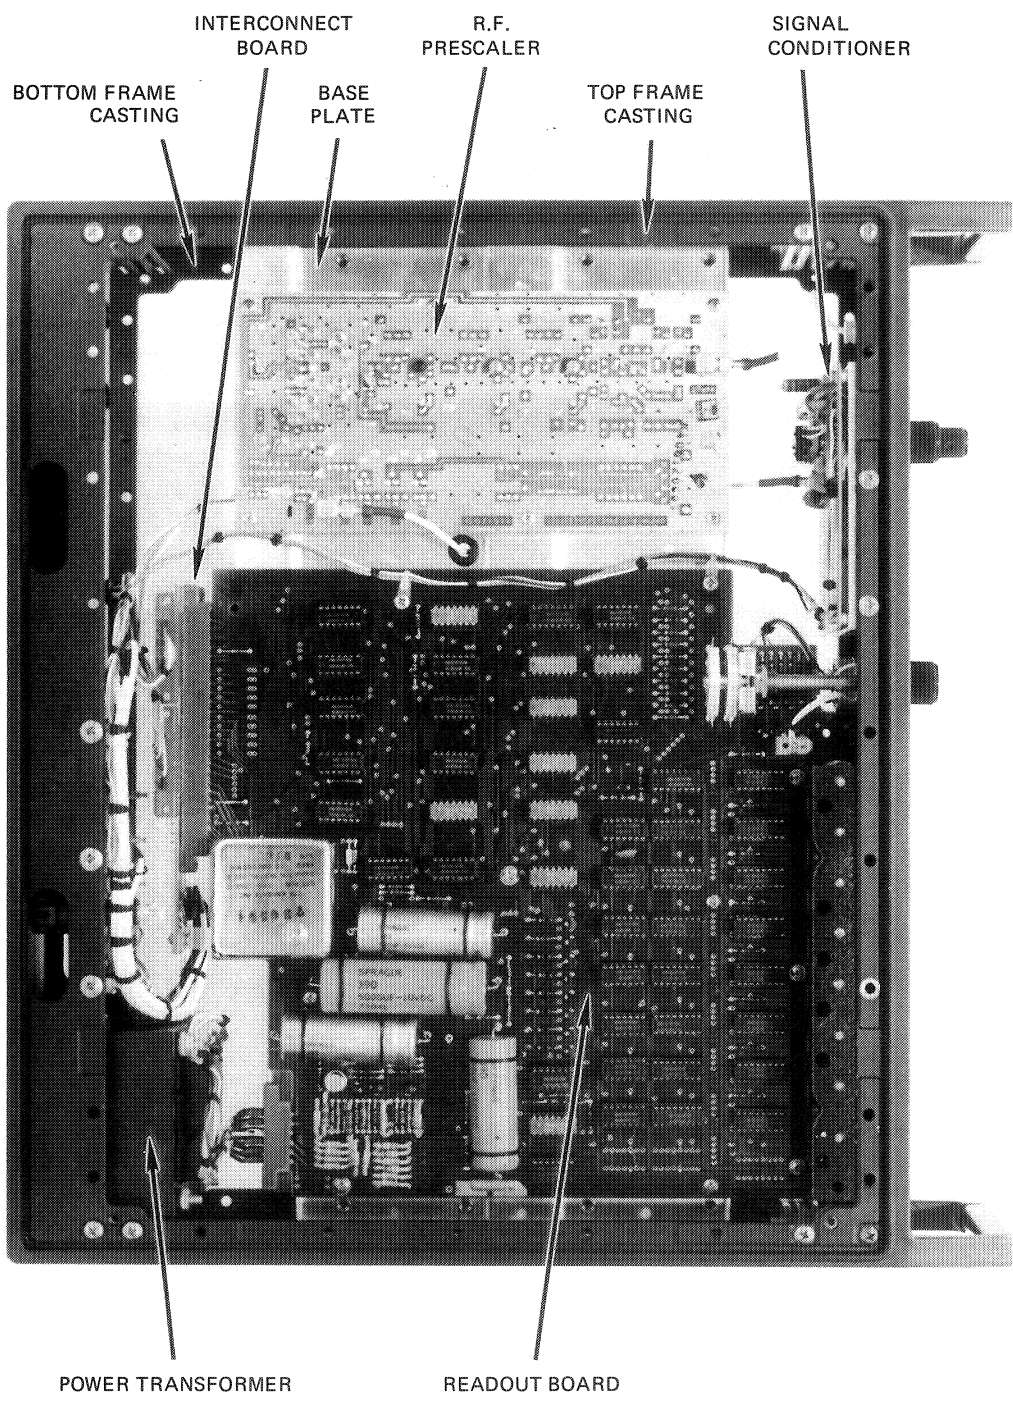
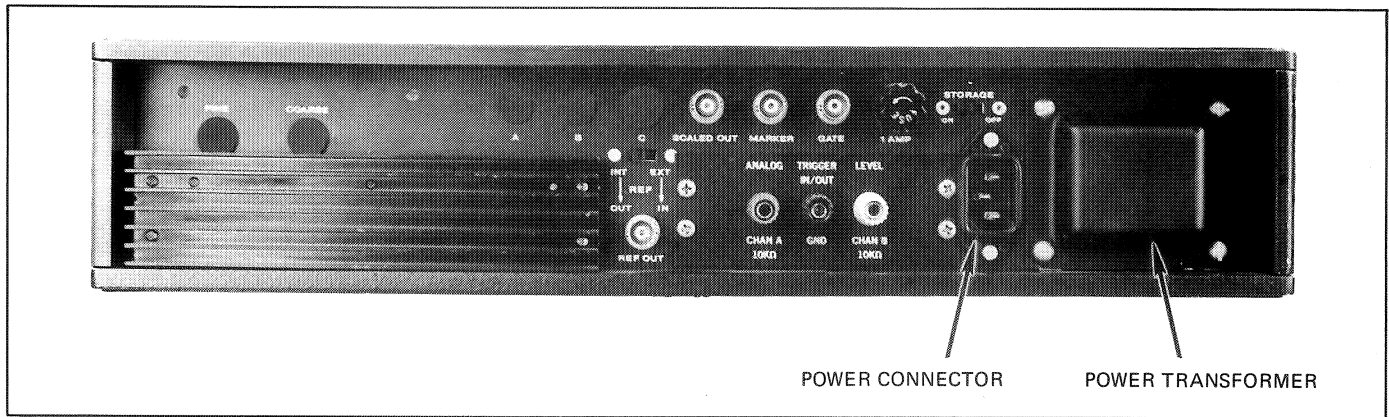

Figure 1.3 - Top View
Figure 1.4 - Rear Panel
1.51 A top view of the counter is shown in figure 1.3. The counter shown (8030B) is equipped with the RF pre-scaler mounted on the base plate. The Readout board is mounted on the top of the base plate. The Interconnect board connects the Readout board and the Switch board together electrically at the rear of the Readout and Switch board. The signal conditioner is attached to the front panel. The power transformer and rear panel are one assembly. The rear panel (figure 1.4) assembly is clamped between the top and bottom frame castings.